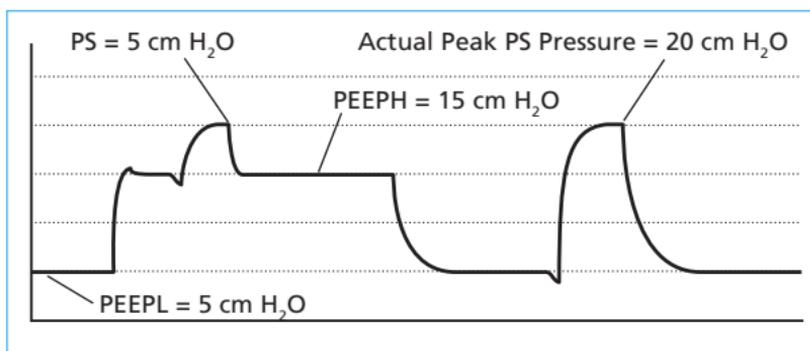

FIGURE 16.
- All spontaneous breaths at $PEEP_H$ are augmented by 5 cm H₂O of pressure support ($P_{SUPP} + PEEP_L - PEEP_H$) for a total pressure of 20 cm H₂O (see Figure 16).